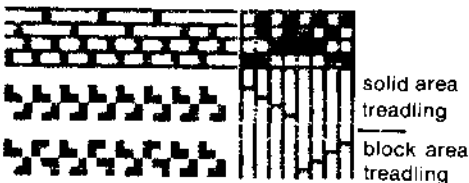

FIGURE 2
**Threading, tie-up and treading:** See Fig. 2.